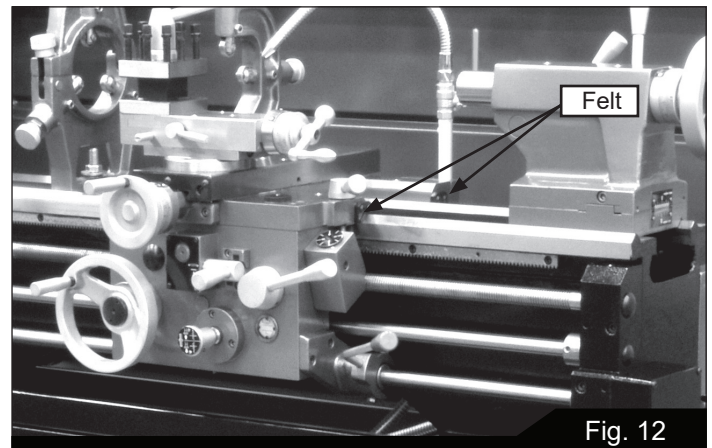

Fig. 12
5. Saddle – The anti-dust felt on both ends of the saddle (Figure 12) should be cleaned weekly with kerosene. If the felt becomes damaged, replace it.